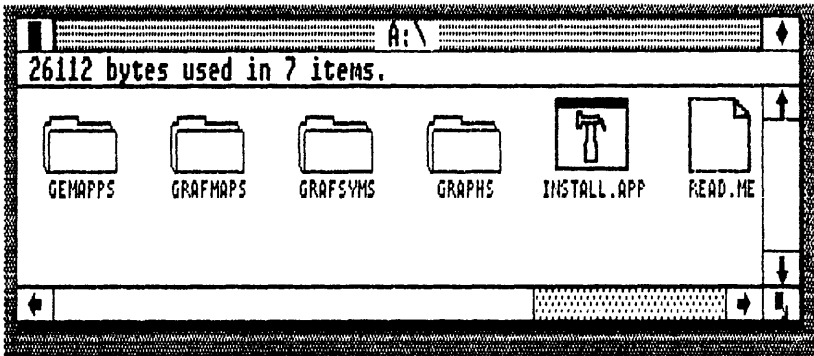

Fig. 5-1. Double-click on the INSTALL.APP icon for installing GEM Graph.
- Double-click on the INSTALL.APP icon (Fig. 5-1).